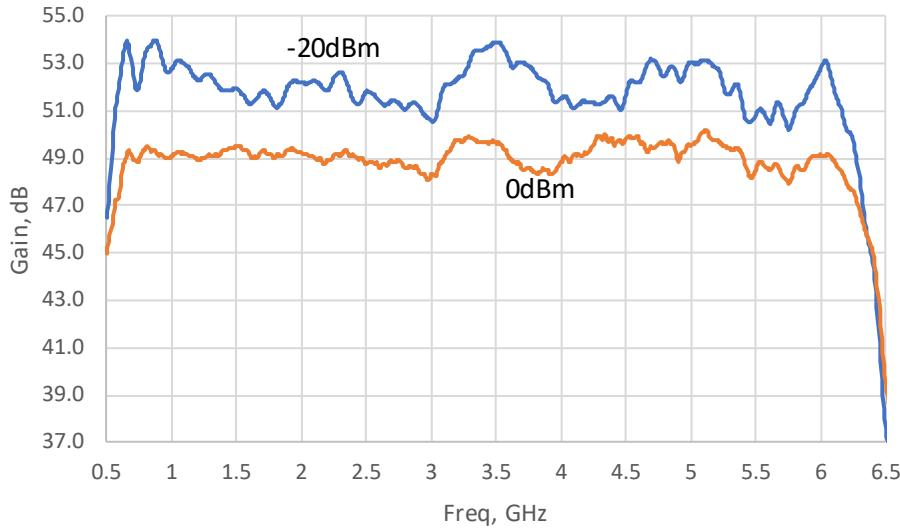

Figure 4-1. Typical Response at 0 dBm Input and -20 dBm Input
1. The Lo Band (0.7-6.0 GHz) typical gain response at 0 dBm input and -20 dBm input is shown in Figure 4-1. The actual gain may vary considerably from that shown in Figure 4-1 but should be ≥ 47 dB at 0dBm input and ≥ 50 dB at -20 dBm input. *NOTE: If the overall gain is low, the amplifier chain can be separated.*